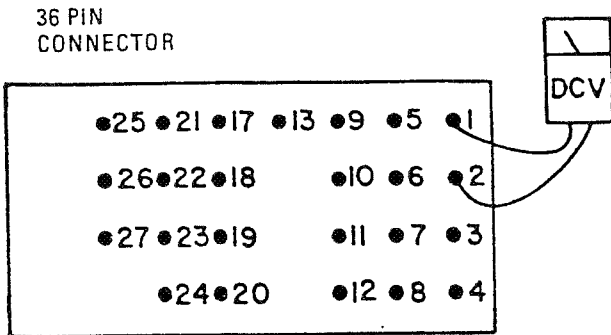

Figure 5-6. Back View Connector A (Model 5001)
3. Use a DC voltage meter 10V scale, or equivalent, and measure the following connector pins located in connector A. See figure 5-6.